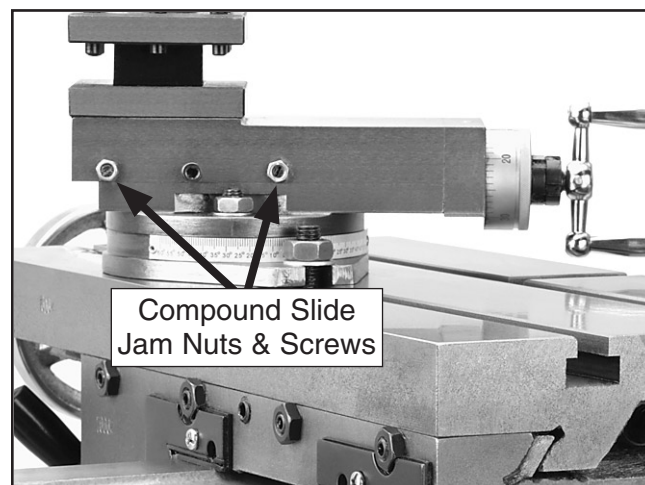

Figure 103. Compound slide gib adjustment fasteners.
2. Loosen the jam nuts shown in **Figure 103**.